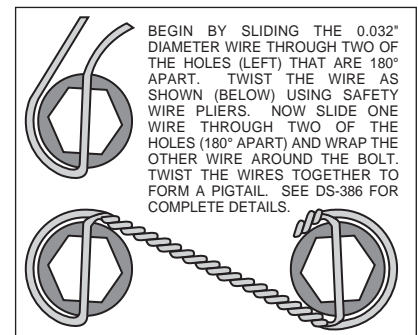

Figure 4. Safety Wire Diagram
- Apply red *Loctite*® 271 to bolt threads (2) before assembly of the caliper bracket (1) to backing plate face of spindle. Position the caliper mounting bracket (1) onto the spindle while positioning spacers (3) between bracket and spindle face. Slip the mounting bolts (2) into the threaded spindle holes, finger tighten. Torque two bolts (2) to 30 ft-lb. **NOTE:** Be sure the heads of the caliper bracket (1) insert nuts are facing outward toward the wheel.
- Install five new wheel studs (4) into the hub (5). Torque to 77 ft-lb. **NOTE:** There are two five lug patterns in the hub (5 x 4.50 and 5 x 4.75). Make sure of the correct hole pattern for the correct wheel application before installing studs into hub.
- Pack the large inner bearing cone (6) with high temperature disc brake bearing grease (available from your local auto parts store) and install into the backside of the hub (5).
- Install the grease seal (7) by pressing into the backside of the hub (5).
- Attach rotor adapter (8) to rotor (9) using six bolts (10). Apply red *Loctite*® 271 to the threads and torque bolts (10) to 25 ft-lb. For an added measure of security, the bolts may be safety wired using standard 0.032 inch diameter stainless steel safety wire as shown in Figure 4. Please refer to Wilwood's data sheet DS-386 (available at www.wilwood.com/Pdf/DataSheets/ds386.pdf) for complete safety wire installation instructions. **NOTE:** The flat side of the rotor (8) lugs face toward the rotor adapter (9) with the dished side of the rotor adapter (8) facing away from the rotor (9).